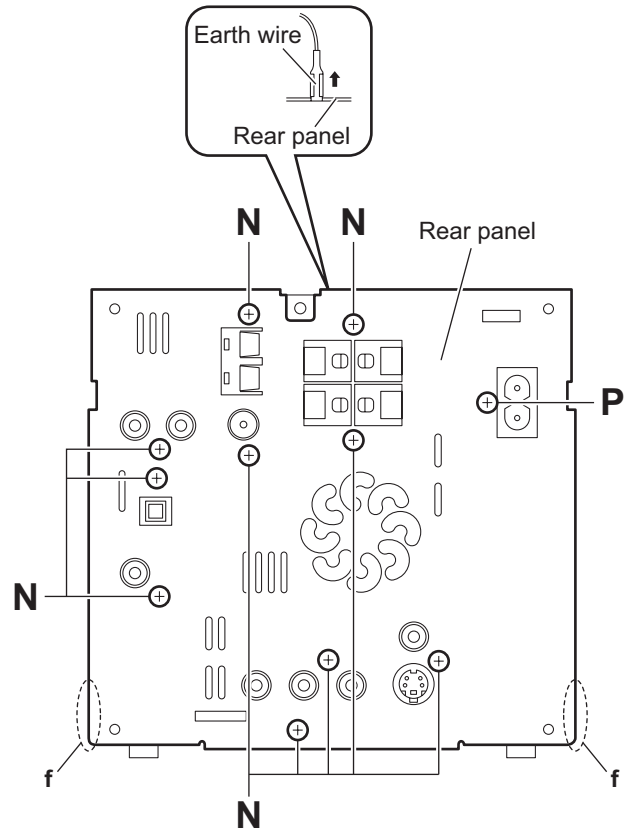

Fig.12
3.1.5 Removing the rear panel (See Fig.12)